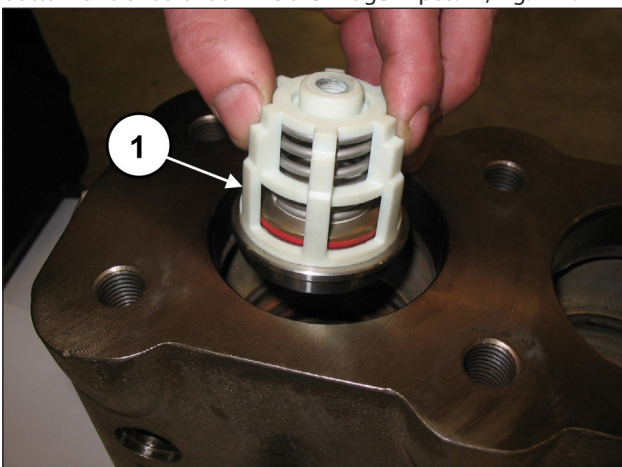
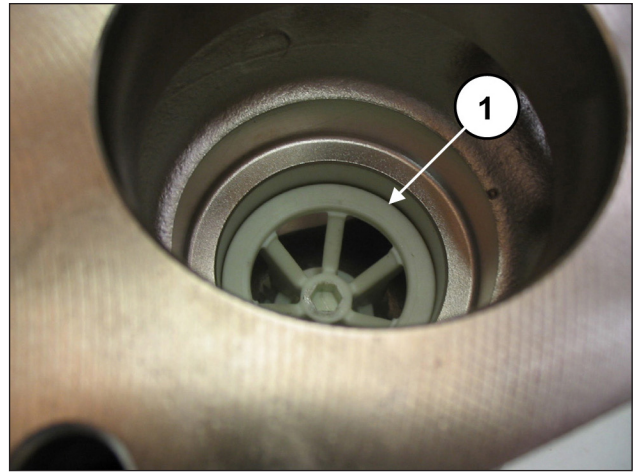

Fig. 113
Fig. 114
Insert the suction valve unit (pos. ①, Fig. 113) and then the spacer (pos. ①, Fig. 114).
The complete valve unit must be fully inserted into the bottom and should look like the image in pos. ①, Fig. 114.